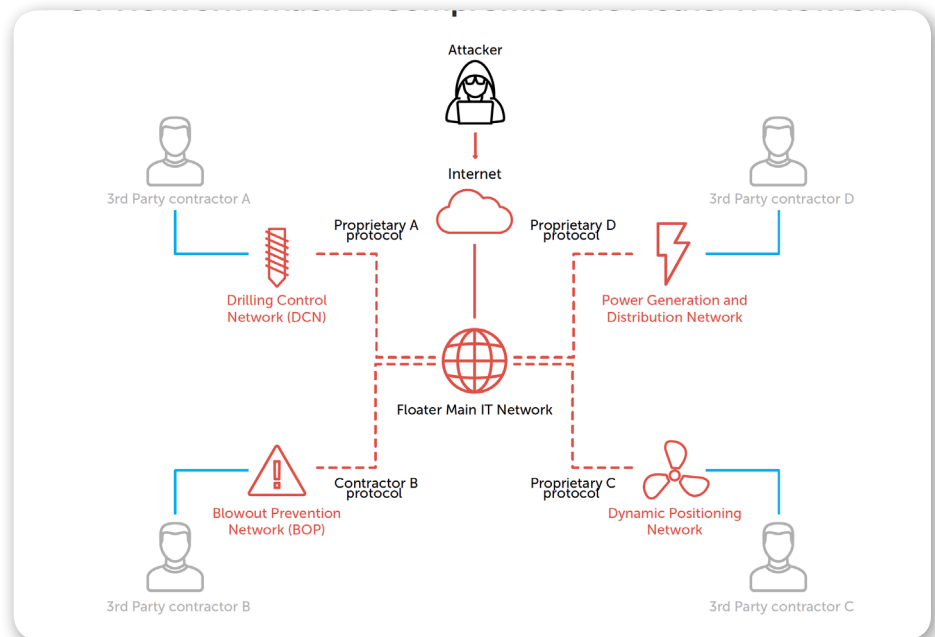

Fig. 3 OT Network Attack 2: Compromise the Floater IT Network
2. Drilling ships' OT networks that are not air-gapped. They are often connected directly with the rig contractor's main IT network, which is connected to the internet. (Fig. 3)